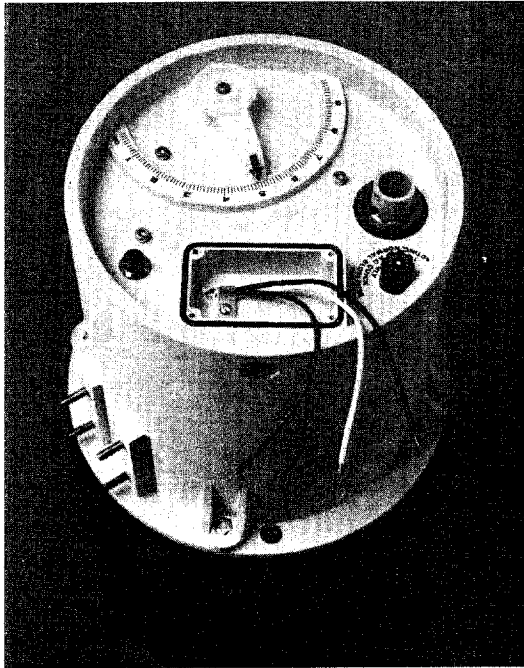
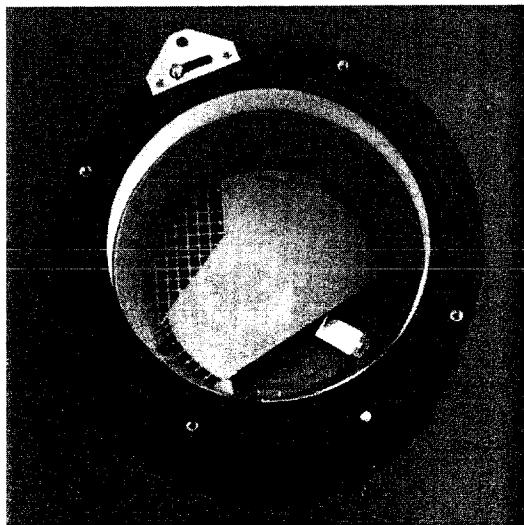

Figure 13
Figure 14
Before adding pellets, run water until the well pump runs. The chlorinator pilot light should be on (Figure 13) and the pellet plate (Figure 14) should rotate with a stop and start motion while the water pump runs.
- E. Remove appropriate number of plugs determined in steps C, D and E. Remove alternate plugs with the plug key provided (Figure 14). Do not use a screwdriver. Pellet plate can be rotated counterclockwise by hand to expose pellet plugs.
D. Use the pellet feed index knob (Figure 13) to make adjustments for individual wells. Start system at setting 5. Once each day, check water for proper chlorine residual with the test kit provided. To decrease chlorine content, pull out and move index knob to a lower setting. To increase chlorine content, move index knob to a higher setting.
Remove the three (3) screws which fasten the pellet container to the motor housing cover (Figure 13).